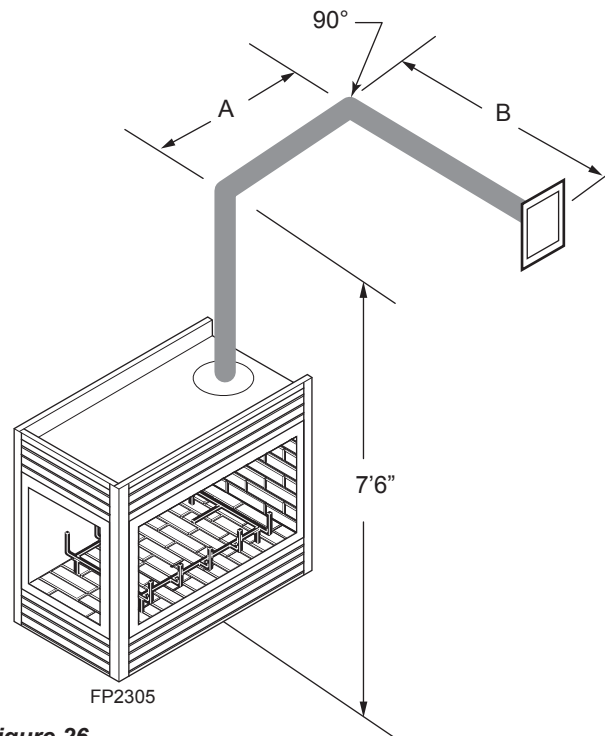

Figure 26 -
- If a 90° elbow is used in the horizontal vent run, the horizontal vent length is reduced by 36" (914 mm). *Figure 26*. This does not apply if the 90° elbows are used to increase or redirect a vertical rise. *Figure 26*
- The maximum number of 45° elbows permitted per side wall installation is two (2). These elbows can be installed in either the vertical or horizontal run.
- The maximum number of elbow degrees in a system is 270°. *Figure 26*